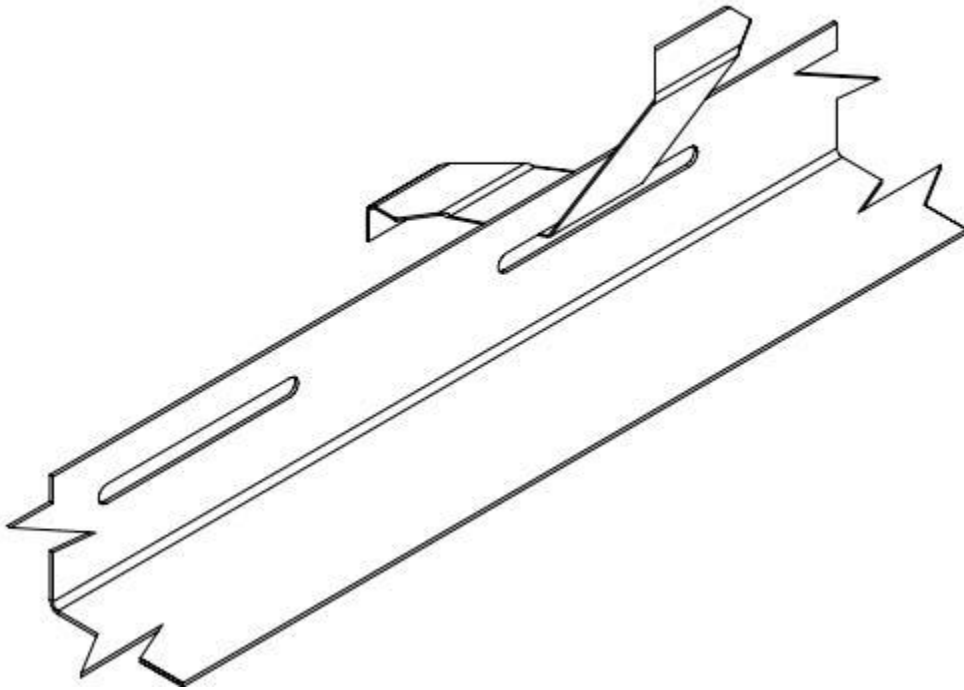

Figure 3. DMC 200S Continuous Butterfly Clip (10 ft Lengths)
DMC 200S Continuous Butterfly Clip (Table 2): The panels are secured to the deck with DMC 200S continuous butterfly clips. Refer to Figure 3 for an illustration of the continuous butterfly clip. The butterfly clips consist of a "base" and a "butterfly." The "base" is 18-gauge L-shaped galvanized steel that is 2" wide, 1-3/4" high and comes in 10 ft long sections. (Note: The base shall be installed continuously along the length of the panel only in those areas where the design pressures in Table 2 are required. In other locations, the panel clip method required for Table 1 design pressures may be used.). The base has a 1/4" wide by 3" long slots located 1/2" from the top for the "butterfly." The "butterfly" is 22-gauge galvanized steel that is 5.045" long by 0.929" tall with two return flaps. The "butterfly" is used to secure the metal roofing panel to the "base." The "butterfly" is secured to the panels and to the continuous base at 3" from each end and 12" on center. The DMC 200S continuous butterfly clip is secured to the roof deck with two (2) minimum No. 10 x 1" long Hex head self-drilling screws located 3" from each end and 12" on center. The fasteners must be long enough to ensure a minimum penetration of 3 pitches of thread below the steel deck. The female rib of the panel is placed over the male/clip assembly and seamed 180 degrees.